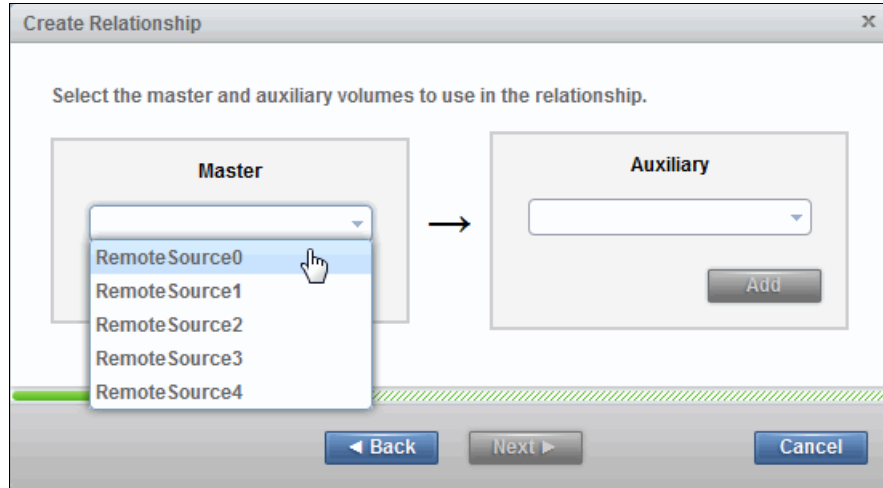

Figure 10-101 Select the master and auxiliary volumes
- Now the Remote Copy master and the auxiliary volume must be specified. Both volumes must have the same size. As shown in Figure 10-101, use the drop-down boxes to select the Master and Auxiliary volumes. The system offers only appropriate auxiliary candidates with the same volume size as the selected master volume. After selecting the volumes, click **Add**.